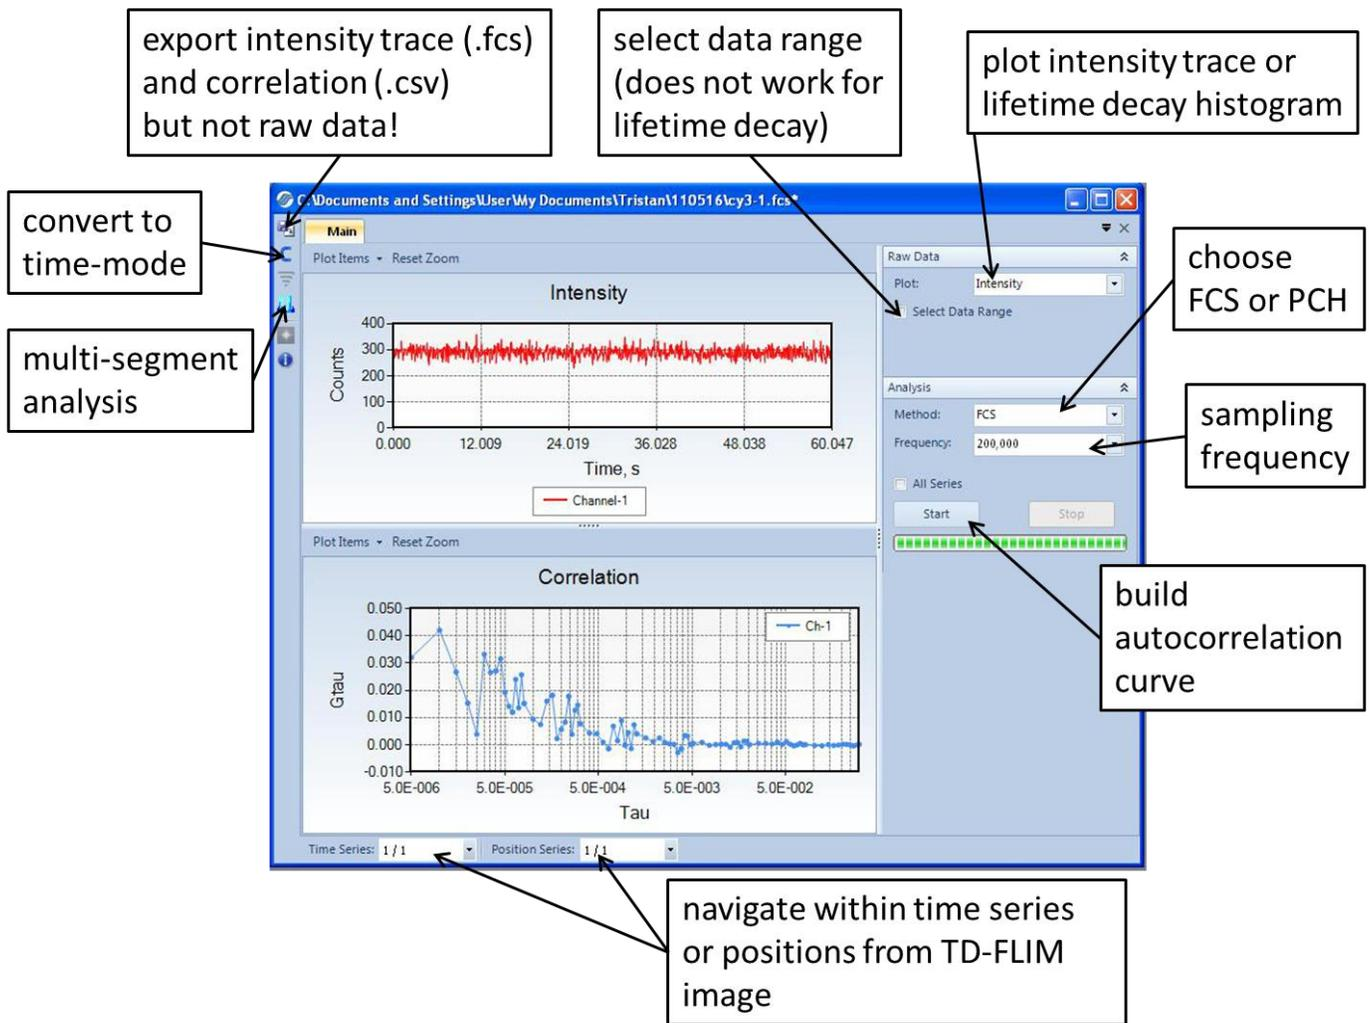

Fig. 9: FFS measurement
6. Start the measurement. **Fig. 9** shows a sample FCS measurement (*FFS workspace*). FCCS (cross-correlation) shows curves (intensity and correlation) from both detector channels as well as a 3rd correlation curve: the cross correlation